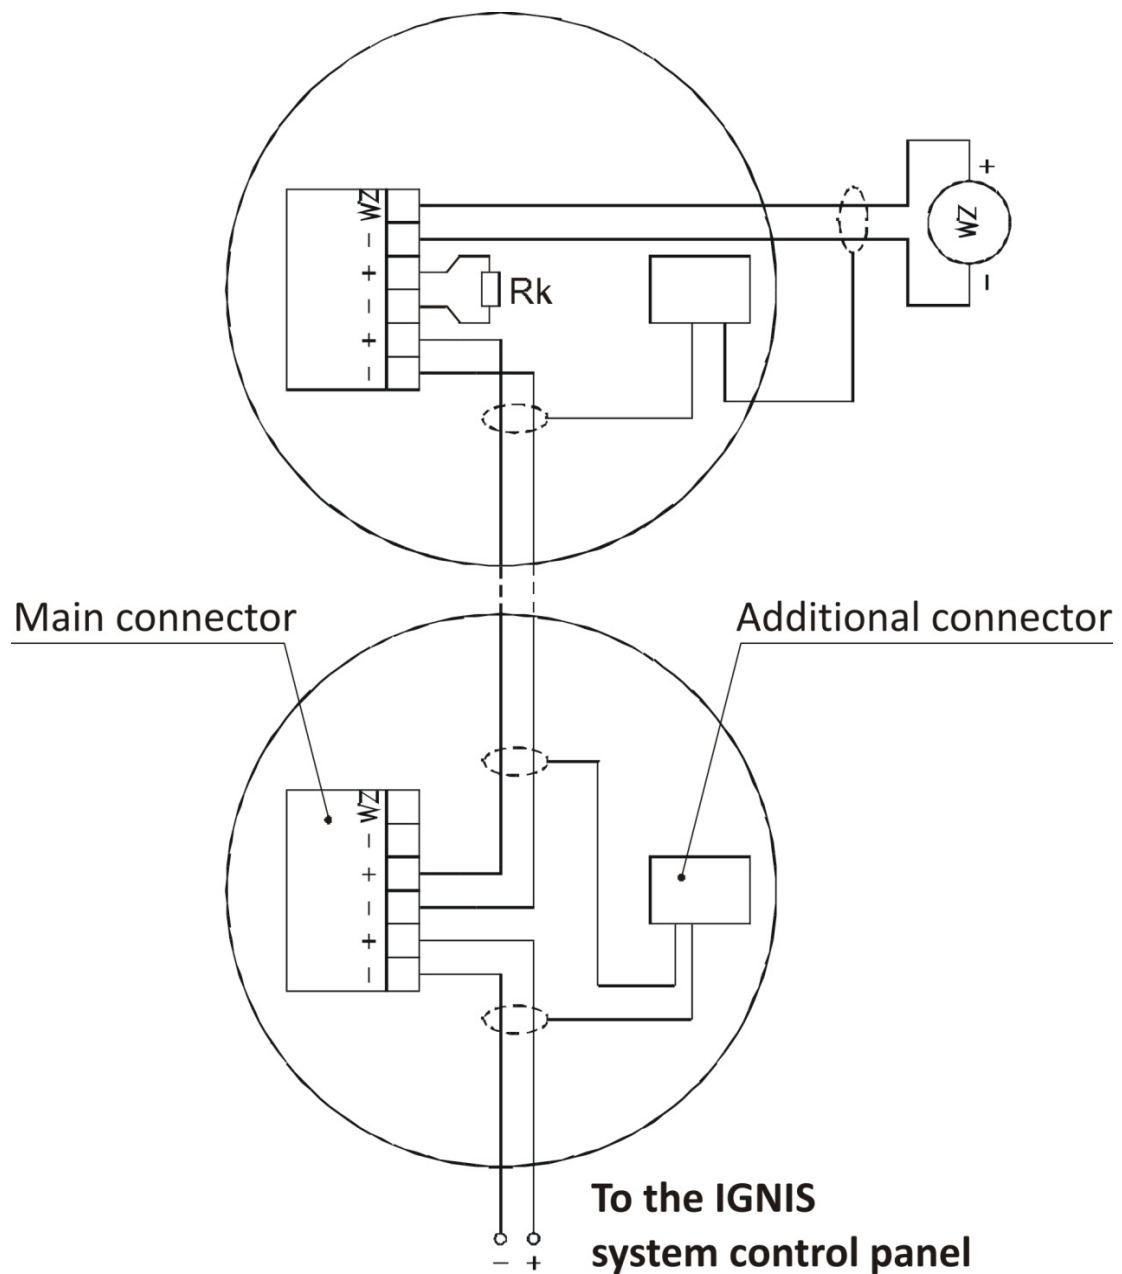

Fig. 5 G-40 base connection way into detection line
**Detection lines:** The detection lines should be connected to the 4...6 pairs of connectors with properly marked polarisation. The line 5 and 6 can be configured as a detection or alarm one depending on the S9 and S10 jumpers position in accordance with the information contained in Fig.1. The S9 and S10 jumpers position is detected in the quiescent mode. It is recommended to create detection lines using a screened cable certified by an appropriate authority, e.g. in Poland – with YnTKSY ekw 1 x 2 x 0.8 cable certified by the CNBOP. The terminals to connect the cable screens are placed above the detection line terminals on the control panel cabinet near the bushings - Fig. 2. The detection lines should be terminated with 10 kΩ end-of-line resistors. Fig. 5 depicts the method of G-40 base connection in a detection line. In the case of unused lines, the end-of-line resistor is connected to the control panel output terminals. All supervised lines must be furnished with an end-of-line resistor – otherwise the control panel will report a fault.